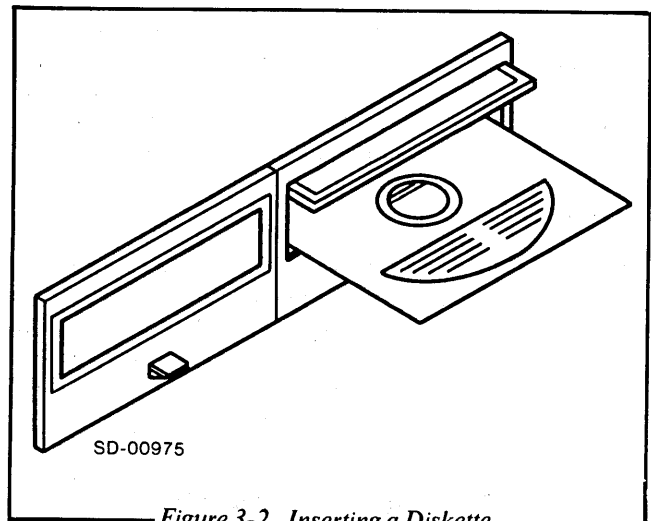

Figure 3-2. Inserting a Diskette
- Slide the diskette into the drive with the label on the envelope facing up, as shown in Figure 3-2. The diskette should slide in smoothly and come to a positive stop in the drive.